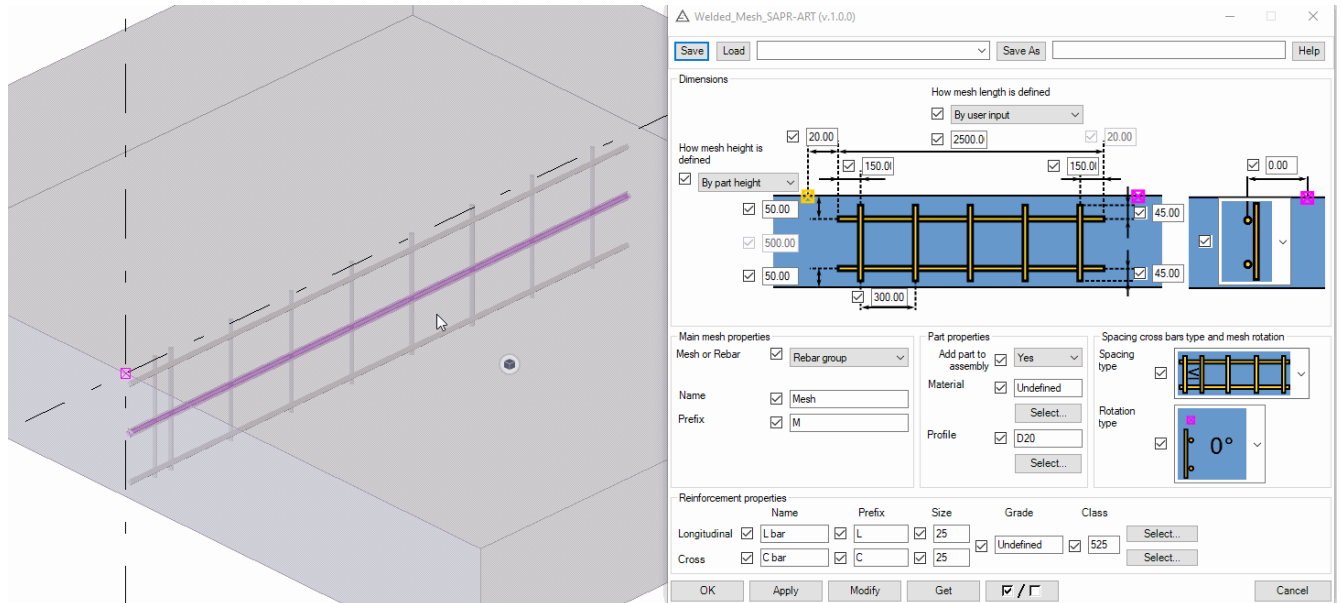

Figure 10. Rotation and modifying spacing type
1. Flexible spacing at the start or at the end (see figure 10). In version 1.4 it became possible to set a middle flexible spacing to the welded mesh.
2. Rotation of the welded mesh (see figure 10)